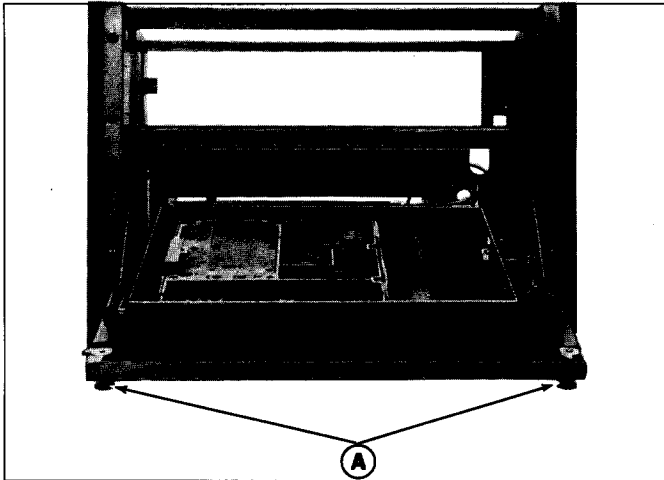

FIGURE 4 - ACCESS TO EXCITER FRONT VIEW
1. Turn the two latching knobs (A) counterclockwise to unlatch the Radio Panel Front Door. Refer to Figure 4.